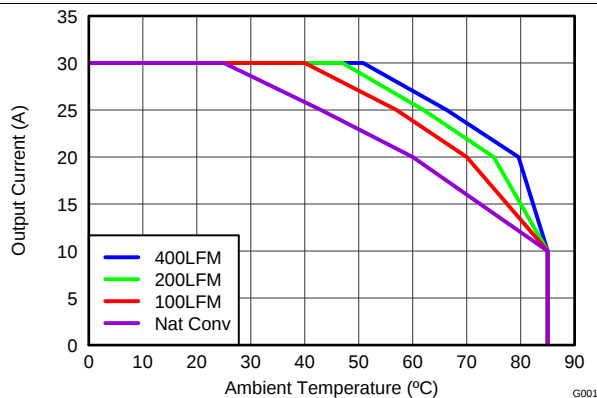
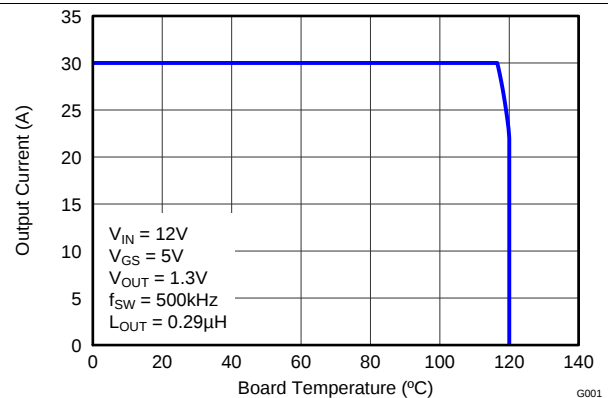

Figure 3. Safe Operating Area – PCB Horizontal Mount
Figure 4. Typical Safe Operating Area
$T_j = 125^{\circ}\text{C}$, unless stated otherwise. For Figure 3 and Figure 4, the Typical Power Block System Characteristic curves are based on measurements made on a PCB design with dimensions of 4.0 inches (W) $\times$ 3.5 inches (L) $\times$ 0.062 inch (H) and 6 copper layers of 1 oz. copper thickness. See Application and Implementation for detailed explanation.
$T_J = 125^\circ\text{C}$, unless stated otherwise. For Figure 3 and Figure 4, the Typical Power Block System Characteristic curves are based on measurements made on a PCB design with dimensions of 4.0 inches (W) $\times$ 3.5 inches (L) $\times$ 0.062 inch (H) and 6 copper layers of 1 oz. copper thickness. See Application and Implementation for detailed explanation.
The SOA curves in the CSD87384M data sheet provide guidance on the temperature boundaries within an operating system by incorporating the thermal resistance and system power loss. Figure 3 to Figure 4 outline the temperature and airflow conditions required for a given load current. The area under the curve dictates the safe operating area. All the curves are based on measurements made on a PCB design with dimensions of 4 inches (W) × 3.5 inches (L) × 0.062 inch (T) and 6 copper layers of 1 oz. copper thickness.